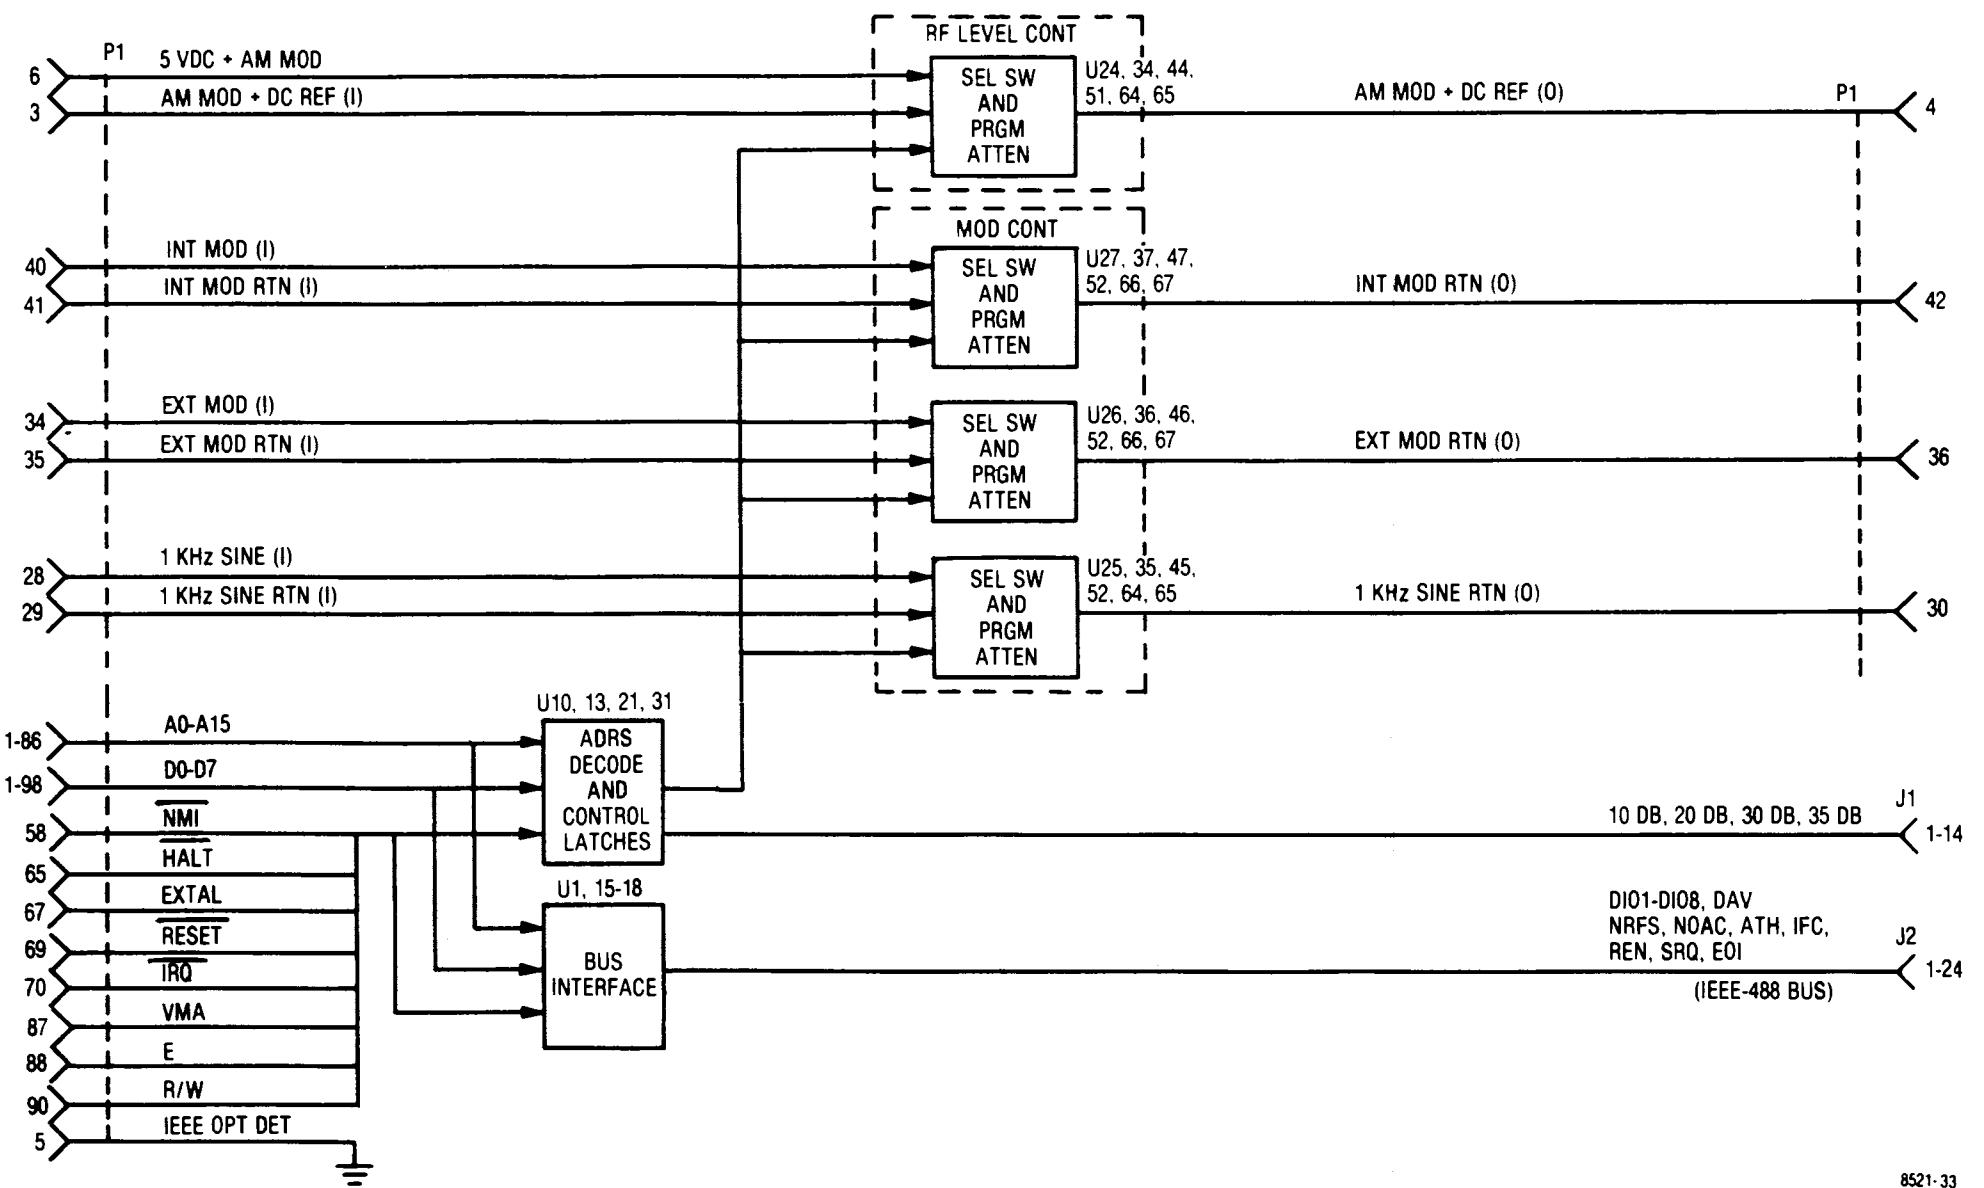

Figure 14-1. IEEE Interface Module A8
**14-1. General.** Remote control of the system is possible using a IEEE-488 bus and the IEEE Interface Module. The Interface Module provides the interface for the 488 bus and provides for processor control of most of the functions normally controlled from the front panel. A block diagram of the IEEE Interface Module is shown in figure 14-1 with its schematic shown in figure 14-2. See section 21 for information on the use of the IEEE Bus for system control.
**14-3. RF Level Control.** The RF Level Control circuitry selects between the 5 VDC + AM MOD or the AM MOD + DC REF (I) input for remote or local control respectively. For remote control the 5 VDC + AM MOD input is electronically attenuated to provide the requested RF output level. For local control the attenuator is programmed for unity gain so that the AM MOD + DC REF (I) signal from the front panel RF level potentiometer controls the RF output level.
**14-5. Modulation Control.** Each of the three modulation sources are individually controllable by the IEEE Bus Interface module. For remote control the respective modulation input (INT MOD (I), EXT MOD (I), and 1 kHz SINE) is switched to a programmable attenuator. The system processor selects the level of attenuation necessary to provide the requested level of modulation. For local control the attenuators are programmed for unity gain and the respective modulation signal from the front panel level control (INT MOD RTN (I), EXT MOD RTN (I), and 1 kHz SINE RTN (I)) is selected to the attenuator to provide modulation level control.